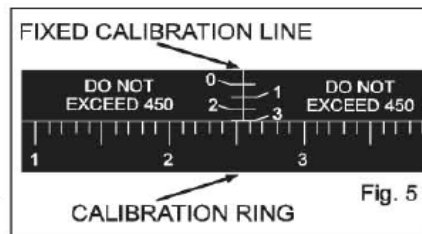

Fig. 5
**12. PUMP STROKE ADJUSTMENT.** The knurled ADJUSTMENT NUT on the pump head controls stroke to stroke piston displacement. Turning it clockwise to zero stops displacement. Turning the ADJUSTMENT NUT counterclockwise four and one half turns from zero (450 on scale) (fig. 5) causes maximum pump reciprocation, e.g., 50  $\mu$ l per stroke for the H-0 or 100  $\mu$ l for the H-1 unit. Thus each 1-1/8 turn (112.5 on scale) of the ADJUSTMENT NUT represents 25 of maximum (12.5  $\mu$ l for H-0 and 25  $\mu$ l for H-1) and each graduation on the ring represents an adjustment of 1/450th of maximum (0.111  $\mu$ l for H-0, 0.222  $\mu$ l for H-1).